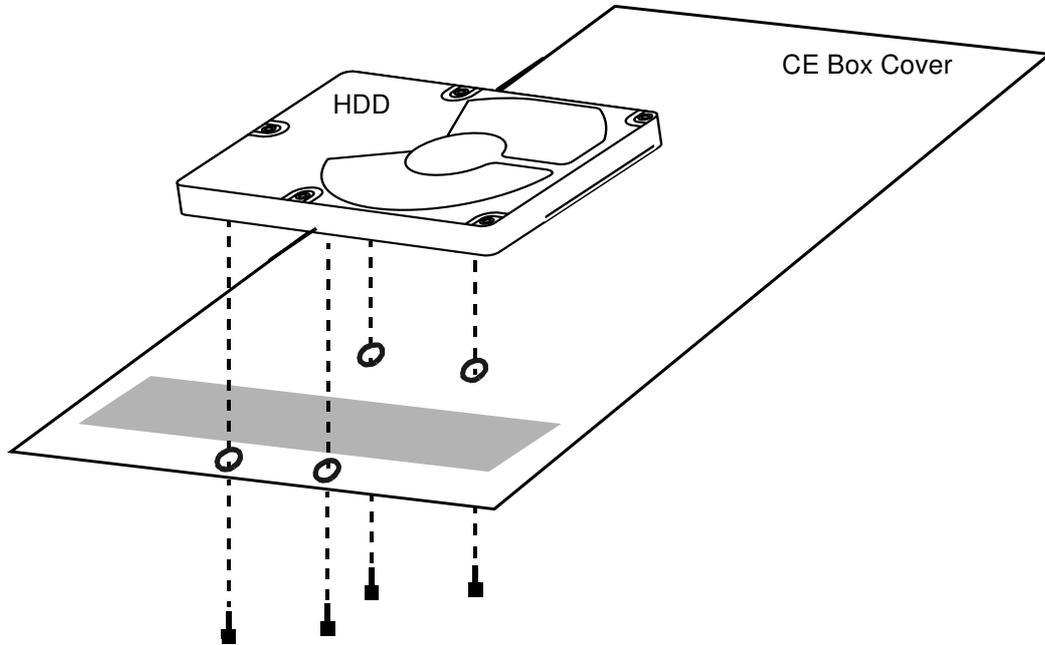

Figure 5-10. Removing the HDD
1. Secure the HDD to the CE box cover using the screws you removed earlier (see Figure 5-10).
6. Reassemble the printer and verify functionality as described in “Restoring Controller Functionality After Service” on page 5-7. However, a BR# xx error should be displayed on the OCP before the item 6 is executed.